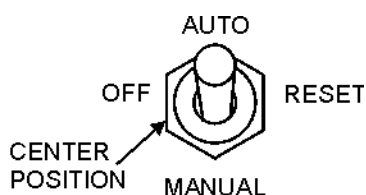

Figure 54. Off/Manual Auto Switch (OFF)
4. If the generator is equipped with an MPEC, place the Off/Manual/Auto Switch (Figure 54) in the "OFF/RESET" position